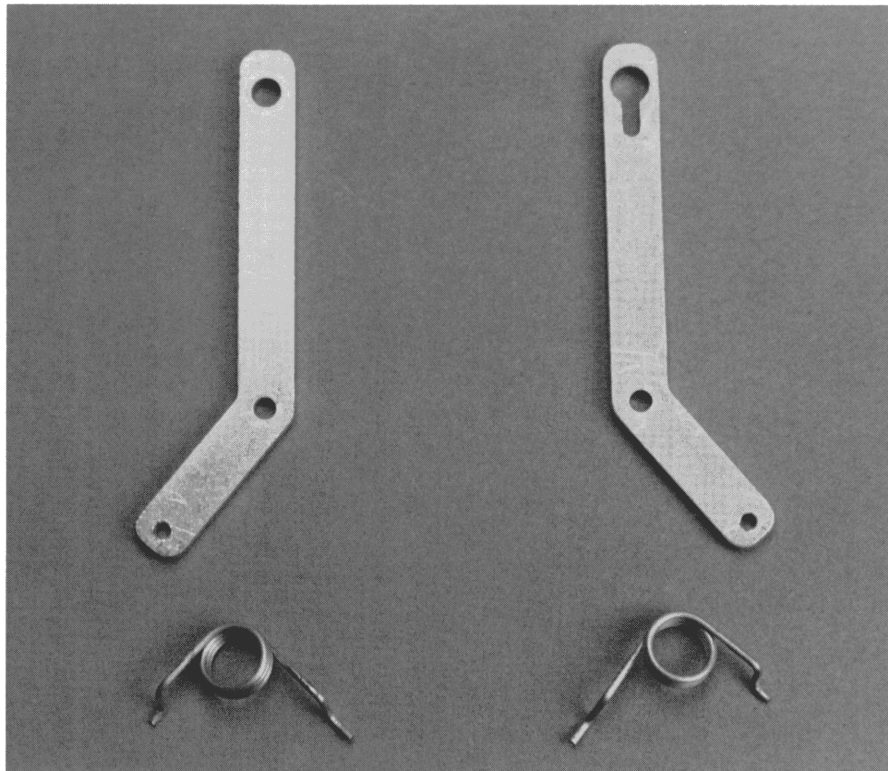

Figure 3-10, Bail Arm Identification
5. When reassembling the bail assembly, it is important to note that the springs and bail arms are different for each side. Figure 3-10 identifies these parts.
5. When reassembling the Bail Assembly, it is important to note that both bail arms are identical (unlike early version bail assemblies, shown in Figure 3-10) but the right and left bail arm springs are different, as shown in Figure 3-10.